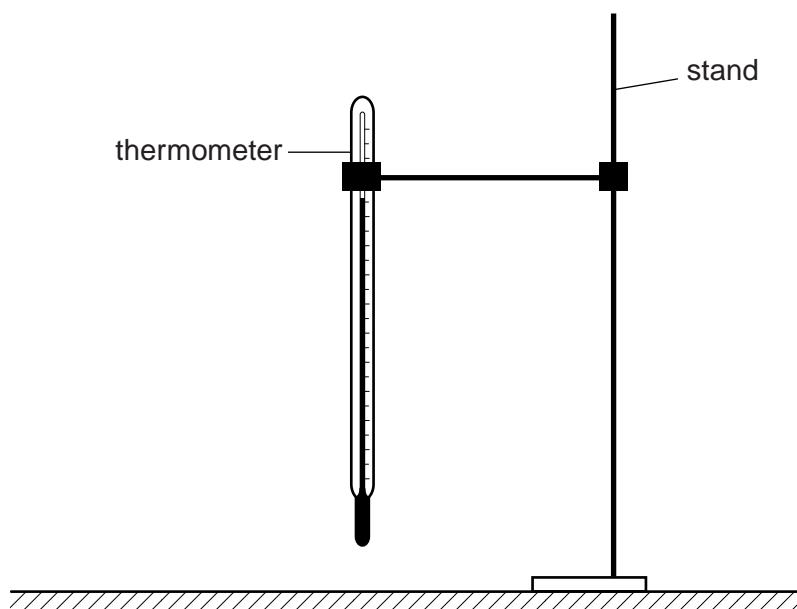

Fig. 2.1
1. The thermometer, clamp, boss, and stand are to be set up for the candidate as shown in Fig. 2.1.
Check that the thermometer is arranged as shown in Fig. 2.1.